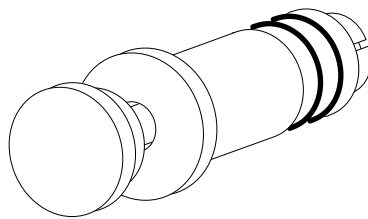

Figure 3-42. Inlet valve seal on the inlet valve seal tool
7. Remove the tool. The inlet valve seal should be on the tool. See Figure 3-42 on page 3-47.